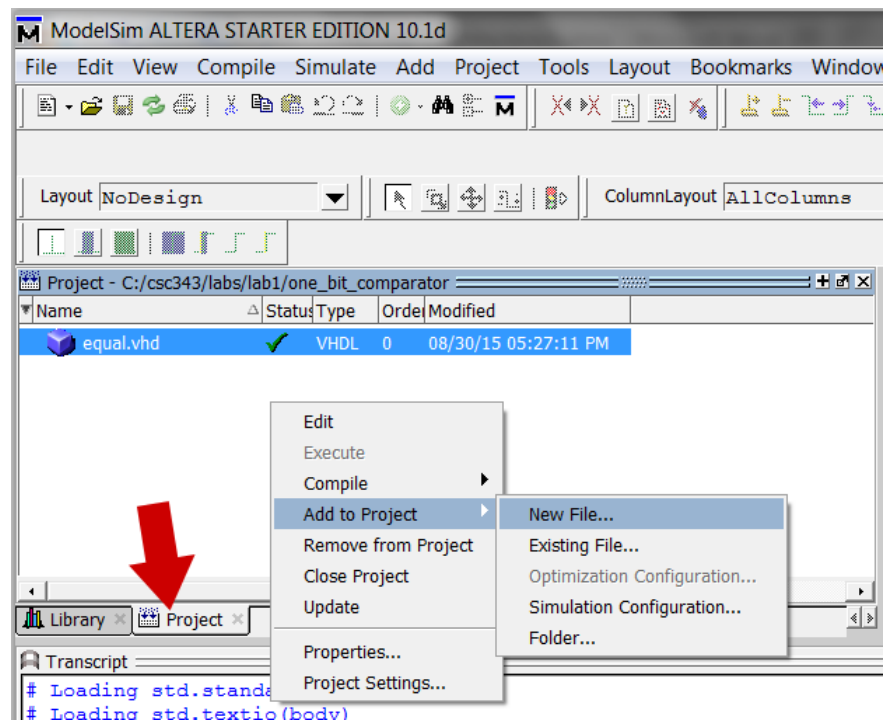

Figure 26. Creating a new VHDL file
1. With the one_bit_comparator project open, click on the Project tab (see figure26). Afterwards, Right click on an empty space in the project navigation panel. Then select **Add to project > New File...**